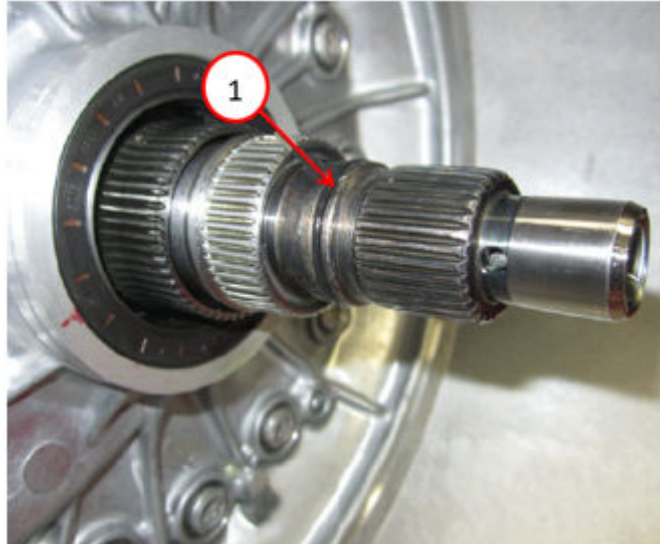

Fig. 38
57. Install the **NEW** input shaft O-ring Fig. 38.